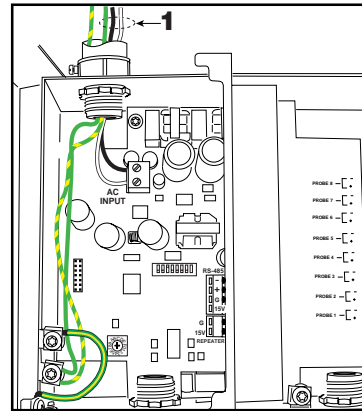

Fig. 4
1. From an independent 24 hour power supply at the distribution panel, run three 2.5 mm2 (minimum) standard color coded wires (item 1 in Fig. 4); two for ac power and one for earth to the fused spur.